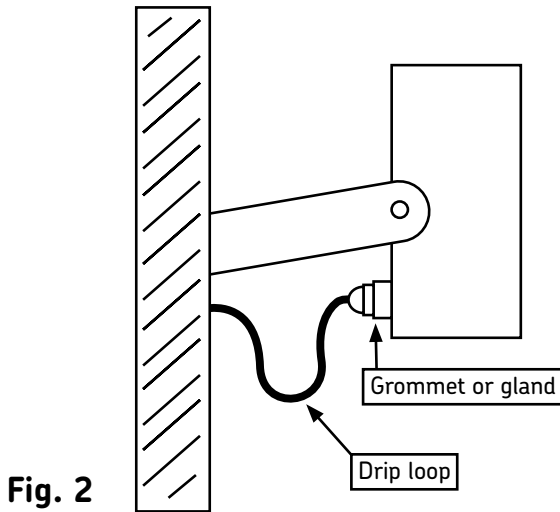

Fig. 2
- A drip loop should be left on the incoming mains cable (see Fig. 2)